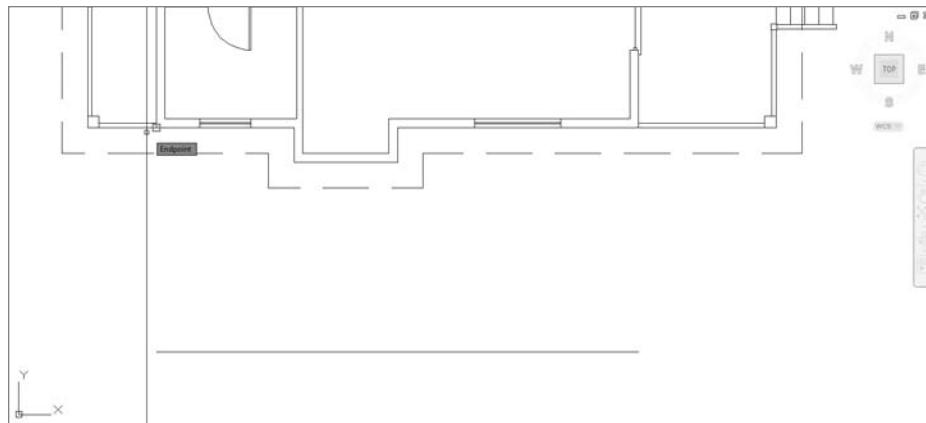

FIGURE 10.6 Drawing a construction line to represent the outside wall by the bathroom
5. Using the Endpoint osnap, choose the lower-left outside wall by the bathroom as shown in Figure 10.6.